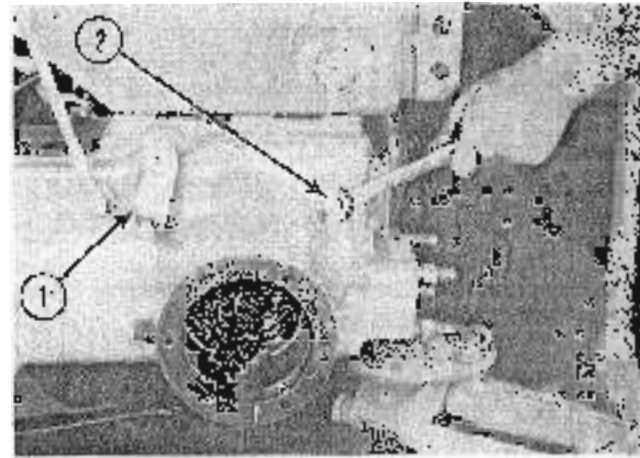

FIG. 6
Remove (6) 10 x 30 mm. hex bolts holding axle housing to differential housing (2, Fig. 6) and remove axle housing.